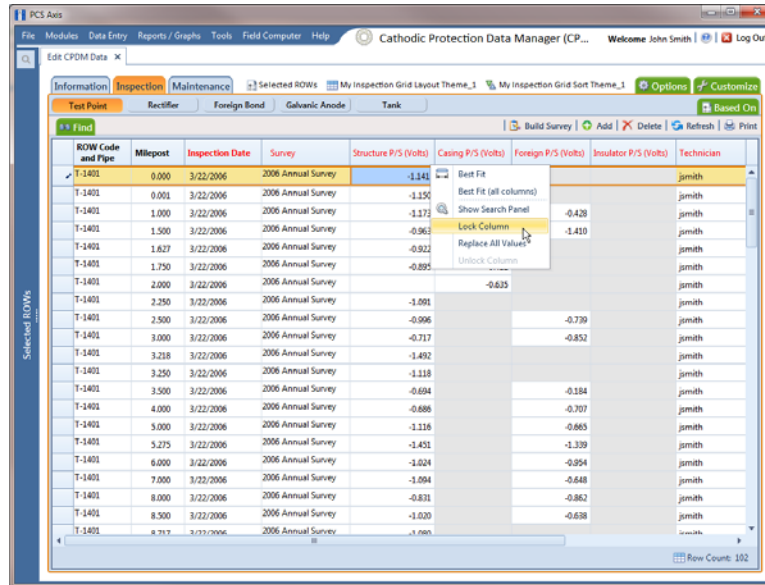

Figure 7-2. Lock Grid Column
- Right-click a grid column and then select **Lock Column** in the shortcut menu that opens (Figure 7-2, page 215).